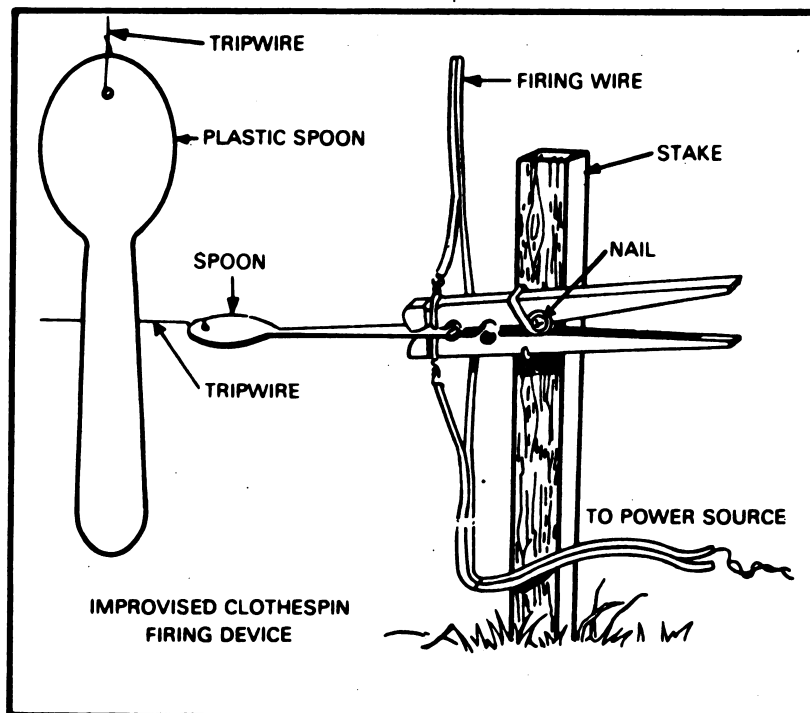

Figure 3
4. Connecting the Tripwire. The tripwire will be attached to a C-ration plastic spoon (or some other nonconductor of electricity). Connect other end of the tripwire to a tree, stake, etc. (fig. 3). Insert the spoon between the jaws of the clothespin. The clothespin will be firmly attached to a tree or stake on the opposite side of target area (fig. 3). The tripwire should be placed about ankle-high to prevent easy detection by the enemy.